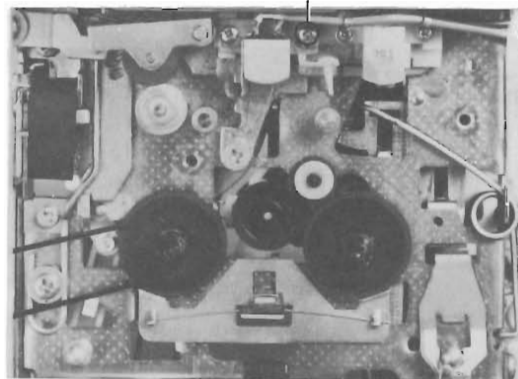

Fig. 3
(1) Adjustment of HEAD AZIMUTH
- ① Load instrument with test tape TEAC-MTT-116L (or equivalent).
- ② Observe the output (10kHz tone signal) of the right and left channel with a VTVM connected to the output terminals (See circuit board diagram of ST-3440)
- ③ Adjust azimuth screw (See Fig. 3) for maximum output.